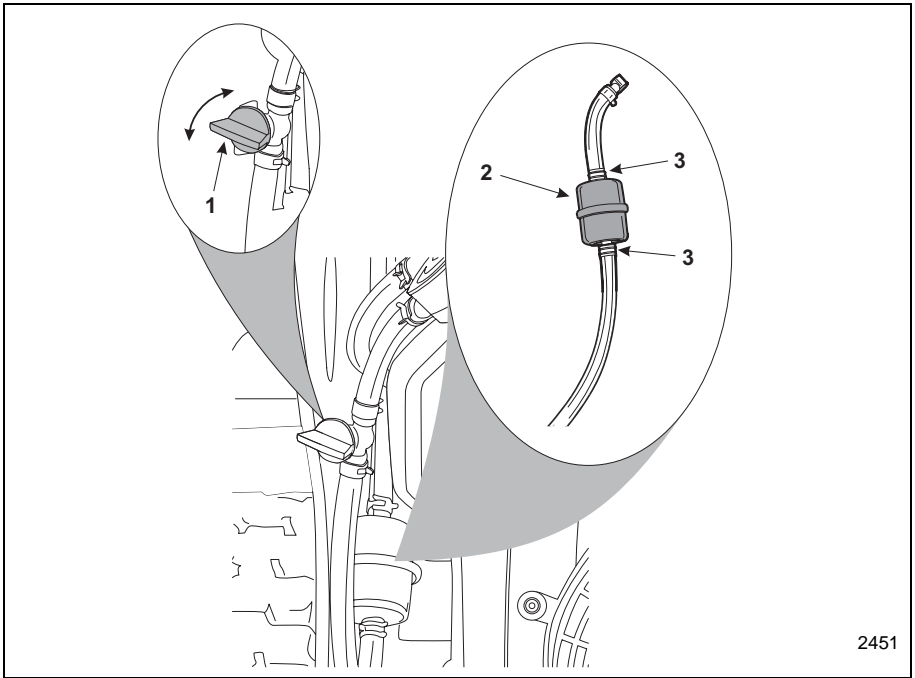

Figure 4-13 Fuel Filter Replacement
- a. Locate fuel filter assembly (Item 2, Figure 4-13) along the left side of the engine.
- b. Shut off fuel using the fuel shut off valve (Item 1, Figure 4-13) by rotating the valve handle horizontally across the fuel line.
- c. Remove the spring clamps (Item 3, Figure 4-13) from above and below the fuel filter (Item 2, Figure 4-13) and remove the fuel lines.